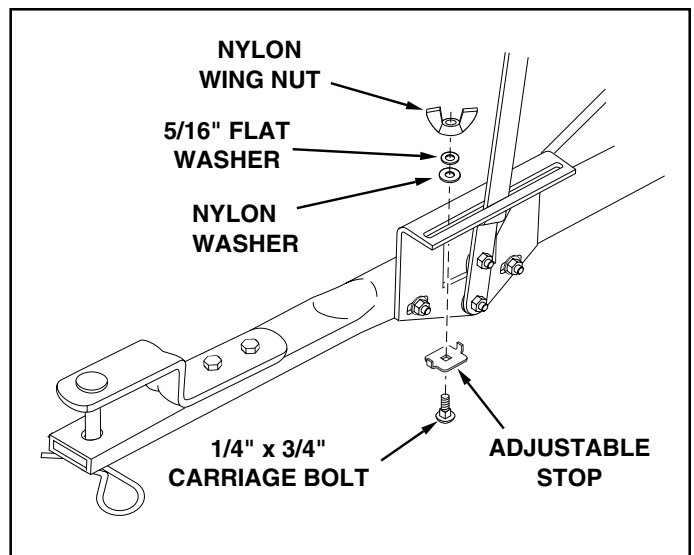

FIGURE 11
20. Place the adjustable stop into the "ON" end of the slot in the top of the flow control mounting bracket. Secure with the 1/4" x 3/4" carriage bolt, a nylon washer, a 5/16" flat washer and the nylon wing nut. See figure 11.